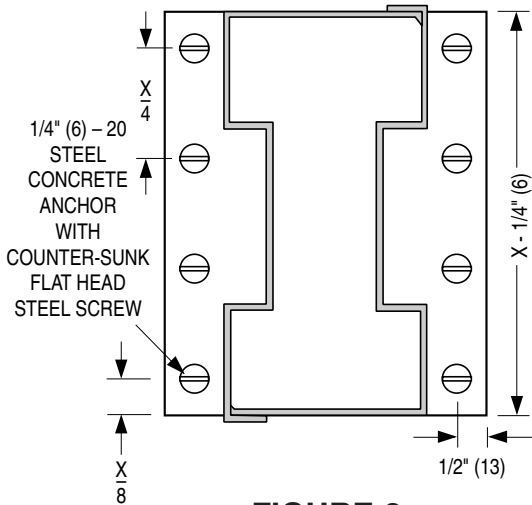
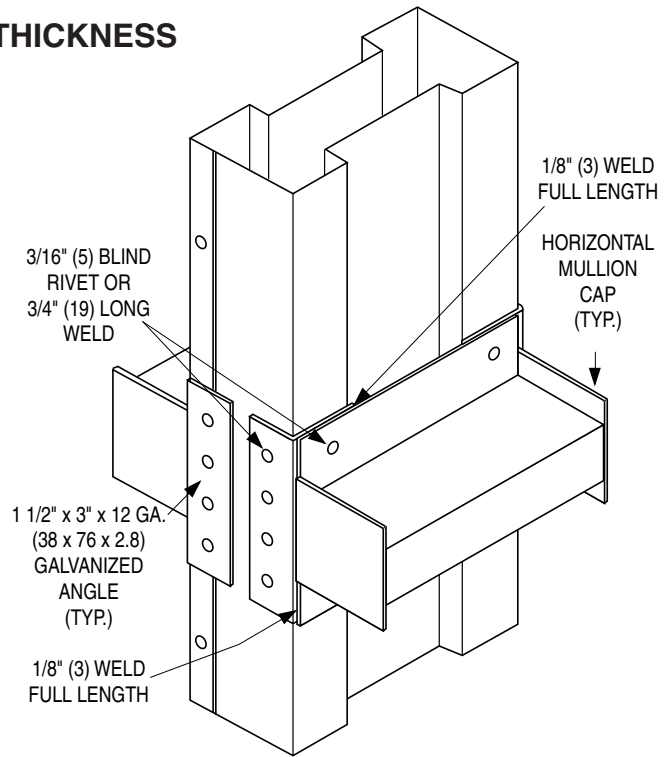

**FIGURE 1**
**FIGURE 2**
1. Fabricate mullions of 16 ga. (1.6) galvanized steel as shown in **Figure 1**. Two mullion pieces are joined with 3/16" (5) diameter steel pop rivets or 3/4" (19) long welds located 6" (152) maximum from each end and 12" (305) O.C. maximum.
2. The mullion should permit clearance between the mullion and top cap. Required clearance is 1/8" (3) per foot of wall opening height. Minimum permitted clearance is 1/4" (6). Maximum permitted clearance is 1 1/4" (32) (e.g. for an 8 ft. (2438) high opening the permitted clearance is 1/8" (3) x 8 = 1" (25) +).
3. Fabricate two caps for each mullion of 12 ga. (2.8) galvanized steel as shown in **Figure 2** for vertical and horizontal mullions. (Caps must permit mullion to overlap each cap by minimum 3" (76)). Cap height is calculated by adding 3" (76) to permitted mullion expansion clearance which is 1/8" (3) per foot of wall opening height. Insert mullion caps into mullion ends allowing mullion to float between the caps. Do not fasten mullion to caps in any way. Locate within opening to provide correct expansion clearance for dampers.